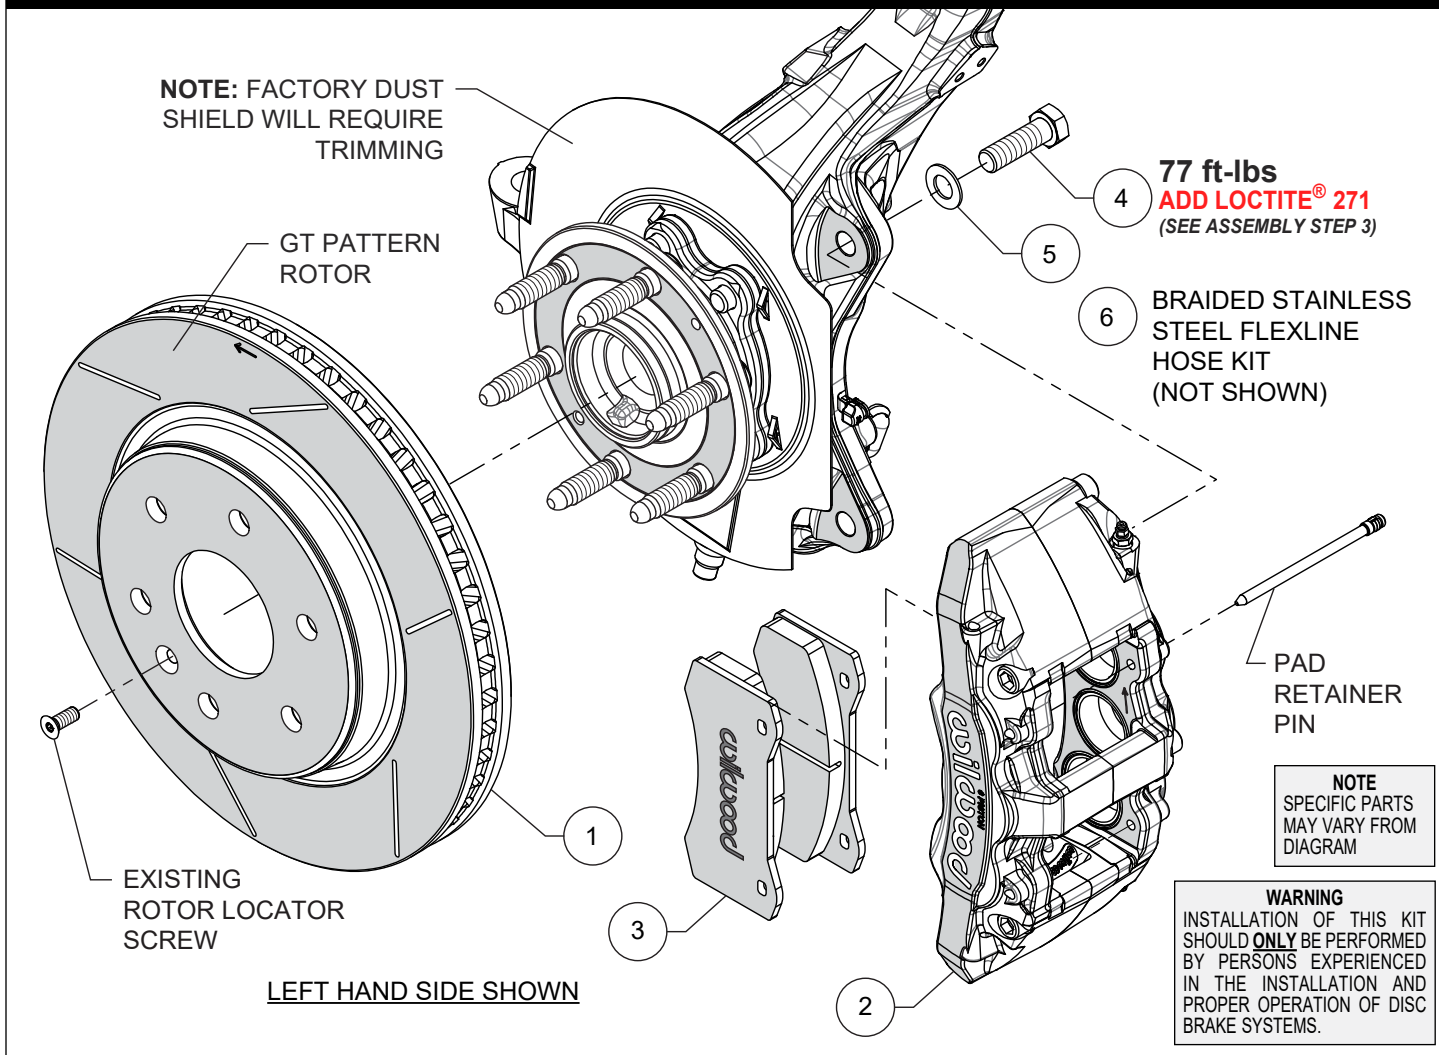

Figure 1. Typical Installation Configuration
Numbers in parenthesis refer to the parts list and Figure 1 on the preceding pages.
**STEP 1** Slide the rotor (1) onto the hub. **NOTE:** The rotor must fit flush against the hub flange or excessive rotor run out may result. Install the OEM rotor locator screw to keep the rotor in place while continuing with the installation, Figure 1 and Photo 1.
**STEP 2** Remove the two pad retaining pins from the caliper (2). Insert the brake pads (3) into the caliper, with the friction material facing the rotor, Photo 2. Secure the brake pads in place with the pad retaining pins, Figure 1 and Photo 3. **CAUTION:** Ensure pad retaining pins are completely engaged into caliper, Photo 4. It is recommended to use a small flat punch and hammer to tap the pins in until they are fully seated.
**STEP 3** Mount the caliper (2) onto the OEM caliper mounting bosses using bolts (4) and washers (5), as shown in Figure 1 and Photo 5. Apply red Loctite® 271 to bolt threads, and torque to value shown in Figure 1.